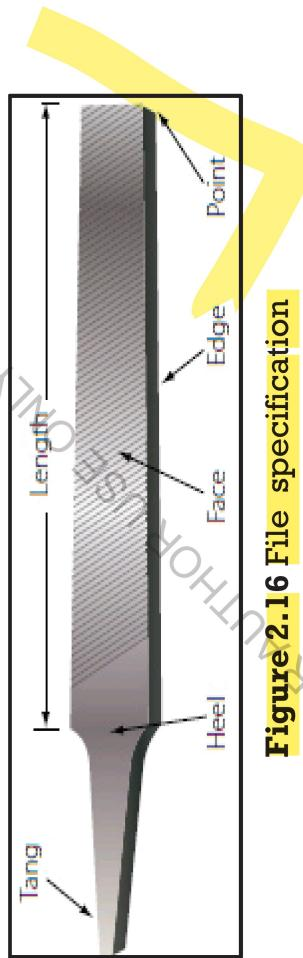

Figure 2.16 File specification
2.2.4.1 Files: Files are the highly vital hand tools for the fine removal and smooth surfaces of raw materials. They has hardened high carbon steel body with a soft 'tang' for a handle to fix on it. Different parts of file are shown in the Figure 2.16. Files are categorized on the following basis:-